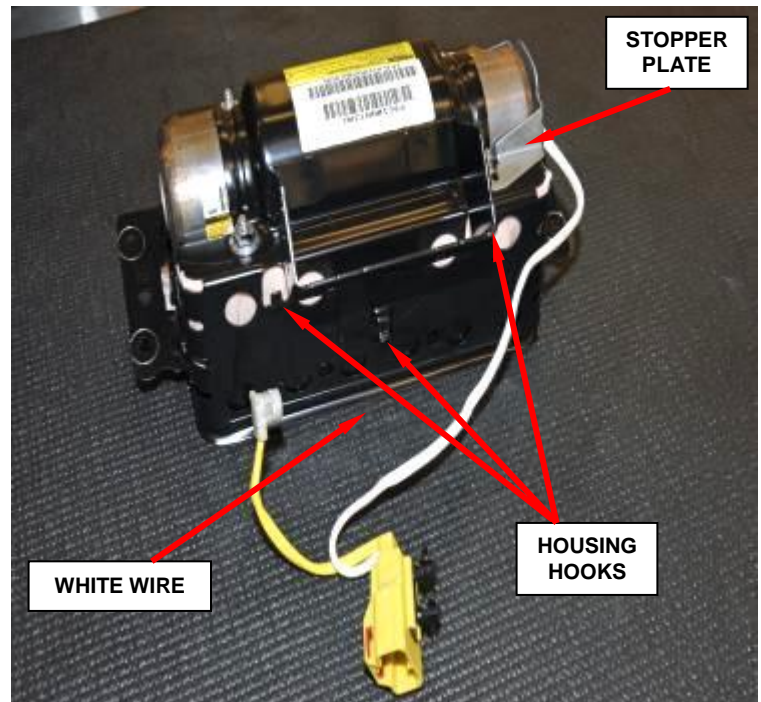

Figure 80 – White Wire Harness
- d. Release the white wire from the three housing hooks (Figure 80).
- f. Remove and save stopper plate from housing (Figures 80 and 81).